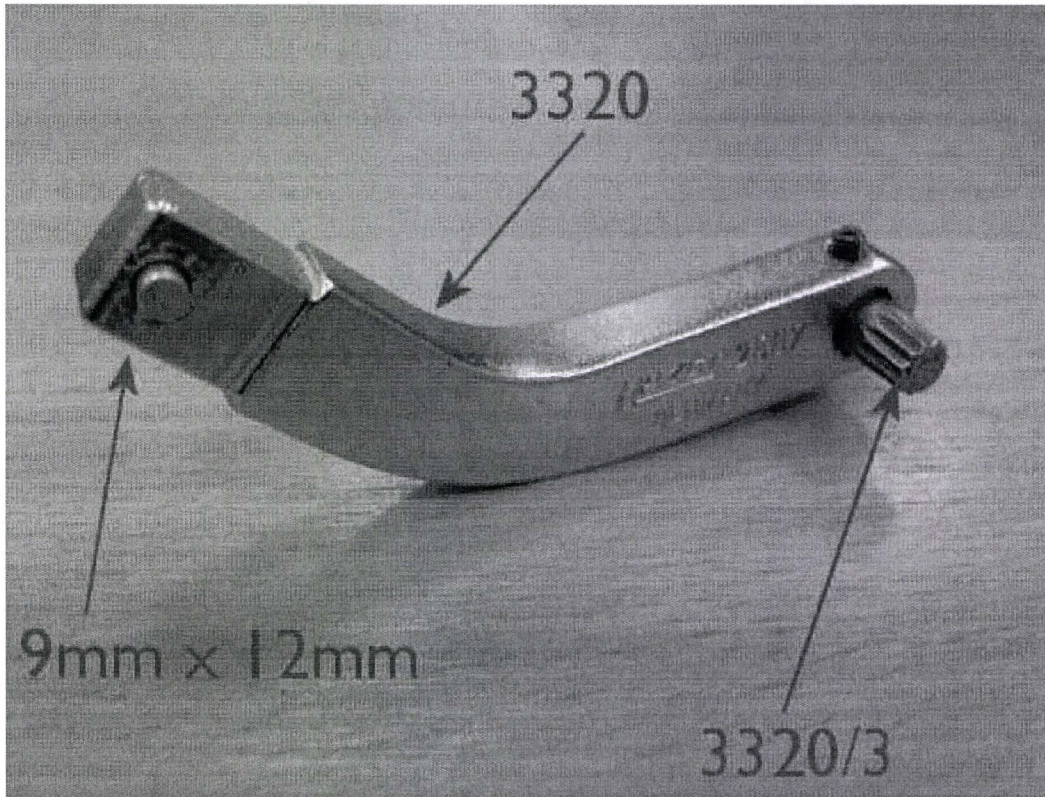

Figure 4
- Fit a new boot hinge fixing bolt, Referring to Figure 4 use special tools 3320 and 3320/3 and Torque the fixing bolt to 20 Nm + 45 Degrees